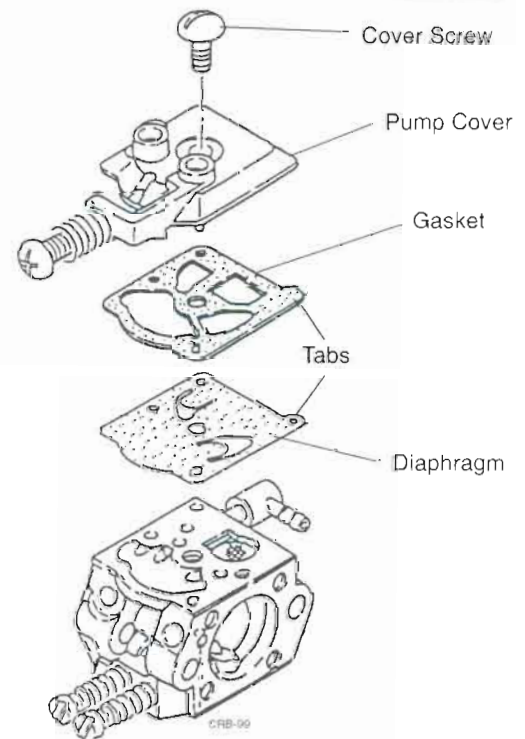

Figure 3.12 Fuel Pump Diaphragm (WT Carburetor)
STEP 1. Turn the carburetor body over, and unscrew the pump cover screw. Remove the pump cover, gaskets and diaphragm (Figure 3.12).